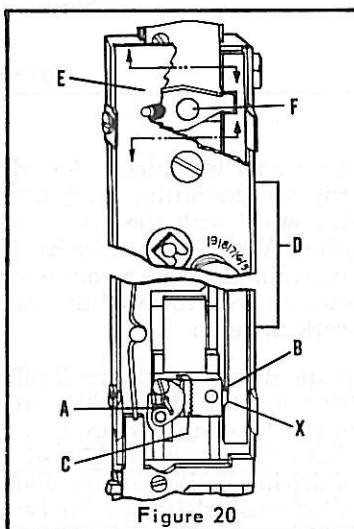

Figure 20
I. Grip, Grip Release Slide And Face Plate (Figure 20)